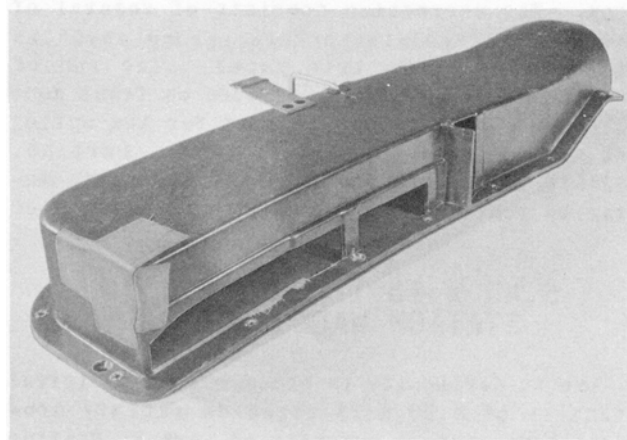

FIG. 7
4. Cut the duct to revise the air outlet by extending the opening to the left (see Figure 7).
5. Use a piece of cloth adhesive tape and seal the opening at the extreme left end of the duct as shown in Figure 7.